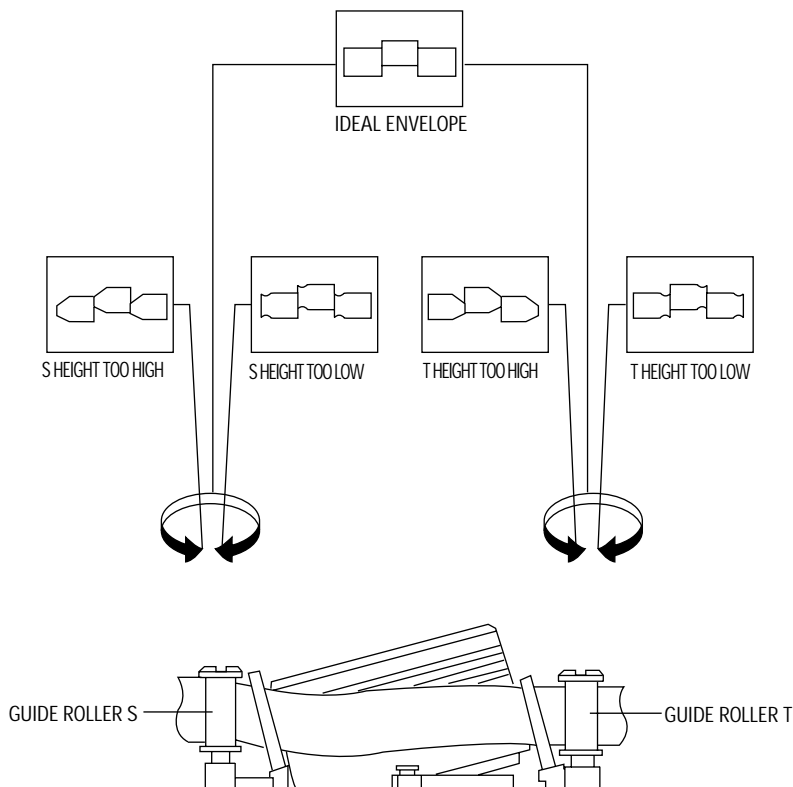

Fig. 2-8 Guide Roller S, T Height Adjustment
8) Turn the guide roller heads with a flat head (🔩) driver to obtain a flat video RF envelope as shown in Fig. 2-8.